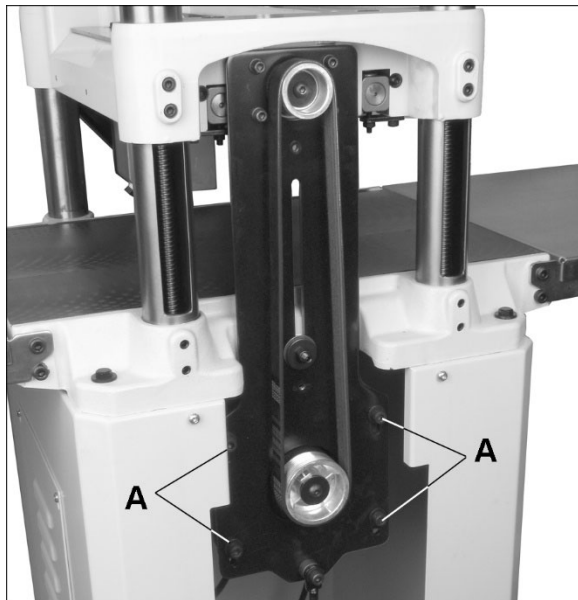

Figure 7-1
2. Remove side panel and belt guard. See Figure 7-1.
3. Loosen four socket hd cap screws (A, Figure 7-1) with 6mm hex wrench, and lower motor slightly until belt is tensioned.
5. Tighten screws (A), and reinstall belt guard and side panel.